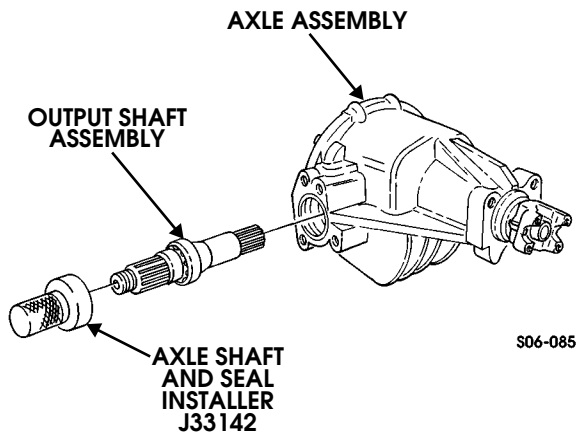

Figure 9-99: Axle Shaft And Seal Installer Usage
66. Using axle shaft and seal installer J33142, install output shaft assemblies into axle assembly (Figure 9-99).